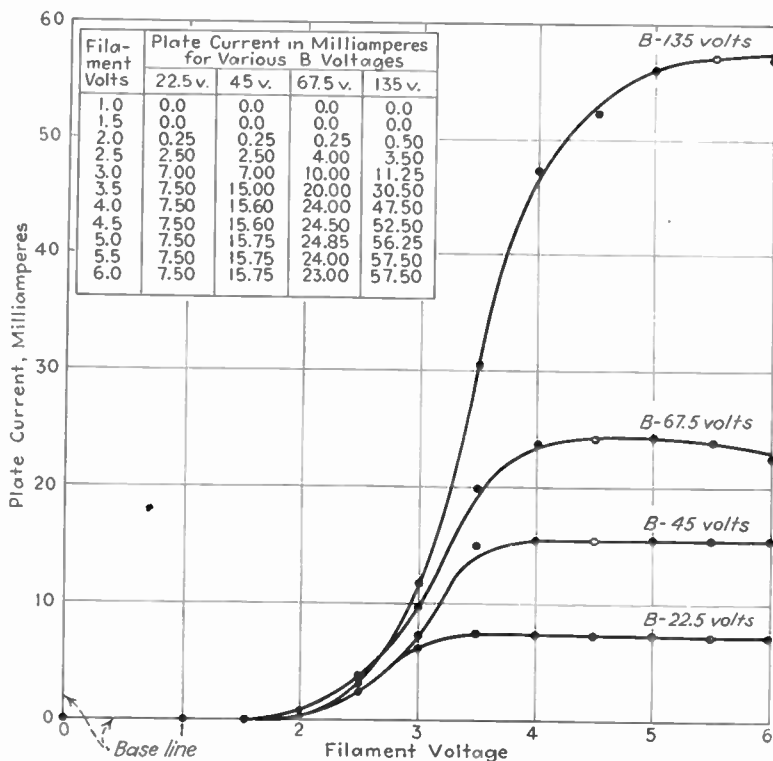

FIG. 50. Sample curves of filament emission for type 01A tube.
to the inch). Draw a heavy base line near the bottom of the sheet (see Fig. 50). Measure the changes in filament voltage on this base line. Mark off the line in equal divisions. Number each division below the line, one division for each volt.
The curves shown in Fig. 50 are samples prepared by the authors from a test run on an old type 01A tube. The reader should run a test on his own tubes, then plot curves for each tube.
are drawn, as shown in Fig. 50, the plate voltage should be lettered near each curve.
6. In Fig. 50 why did we draw the curve so as to miss several dots?